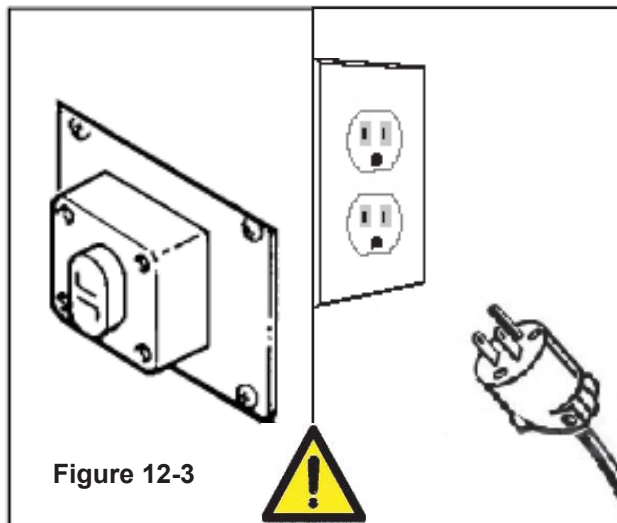

Figure 12-3
Push the main switch ON (I) after the EMERGENCY BUTTON is released (**Figure 12-3**).
Before carrying out any cleaning or maintenance operation stop the machine by Pushing the OFF (O) switch on the main and disconnect the electric power (**Figure 12-3**).